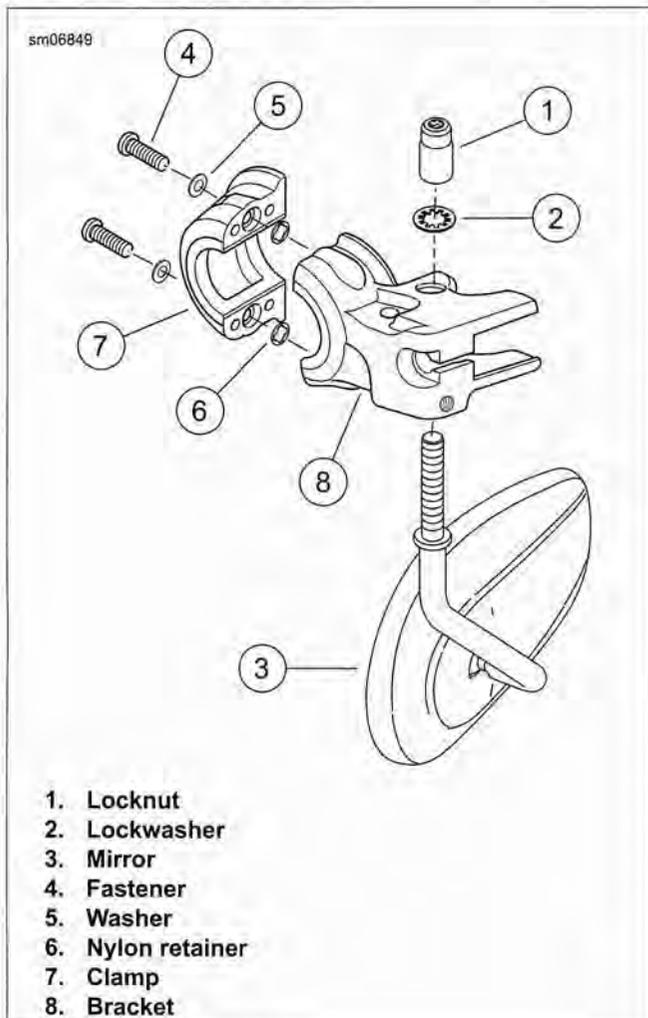

Figure 2-183. Clutch Hand Control Bracket: XL 1200X
**XL 1200X:** See Figure 2-183. Adjust mirrors for rider vision and so that the mirrors do not strike the fuel tank on lock to lock handlebar turns.